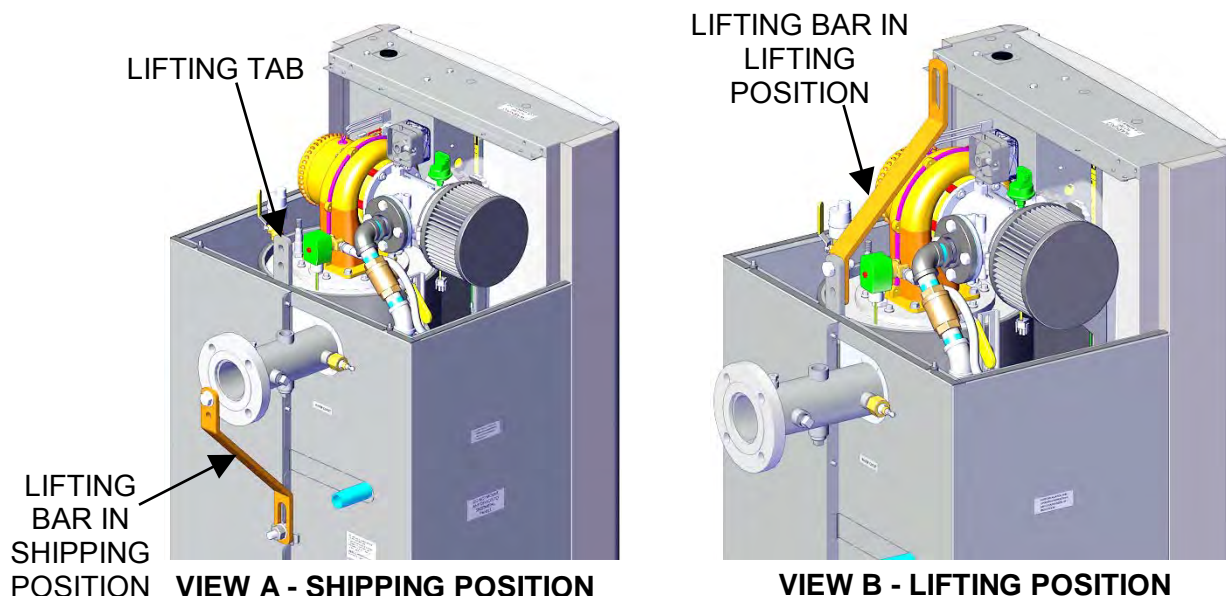

Figure 2-2: Boiler Lifting Provisions
After unpacking and inspecting the boiler, remove the four (4) lag screws securing the boiler to the shipping pallet. The boiler can be lifted and moved by inserting forklift tines in the front slots provided in the base of the unit, or it can be lifted by attaching a lifting bar to the unit's heat exchanger. A lifting bar (P/N 59174), with attaching hardware, is supplied with each unit. When shipped, this bar is attached to the rear of the unit as shown in Figure 2-2, View A. One (1) lifting tab is provided at the top of the unit's heat exchanger as shown. This tab is used to attach the lifting bar to the unit as follows:
1. Remove the lifting bar from its shipping location at the rear of the unit (Figure 2-2, View A). Retain the attaching hardware consisting of two (2) hex head cap screws, hex nuts and flat washers.
3. Refer to Figure 2-2, View B and attach the lifting bar to the heat exchanger lifting tab using the hardware removed in step 1. The upper end of the lifting bar containing the oval cutout should be positioned over the top of the heat exchanger as shown.